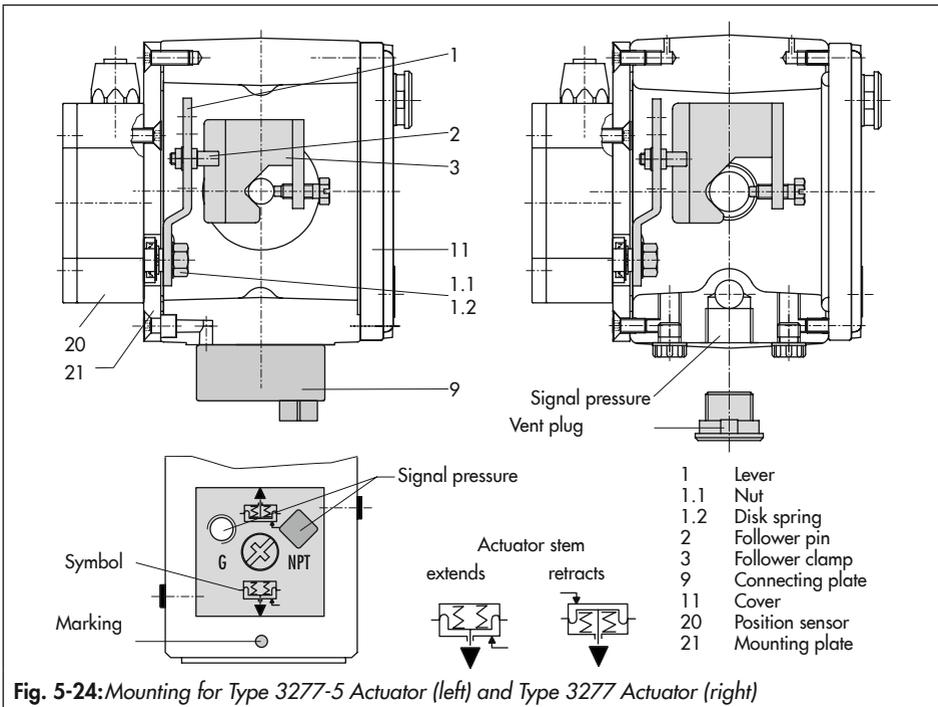

Fig. 5-24: Mounting for Type 3277-5 Actuator (left) and Type 3277 Actuator (right)
Type 3277-5 Actuator with 120 cm² (Fig. 5-24)
The signal pressure from the positioner is routed over the signal pressure connection of the connecting plate (9, Fig. 5-24 left) to the actuator diaphragm chamber. To proceed, first screw the connecting plate (9) included in the accessories onto the actuator yoke.
- Turn the connecting plate (9) so that the correct symbol for the fail-safe action "actuator stem extends" or "actuator stem retracts" is aligned with the marking (see Fig. 5-24, bottom).
- ➔ Make sure that the gasket for the connecting plate (9) is correctly inserted.